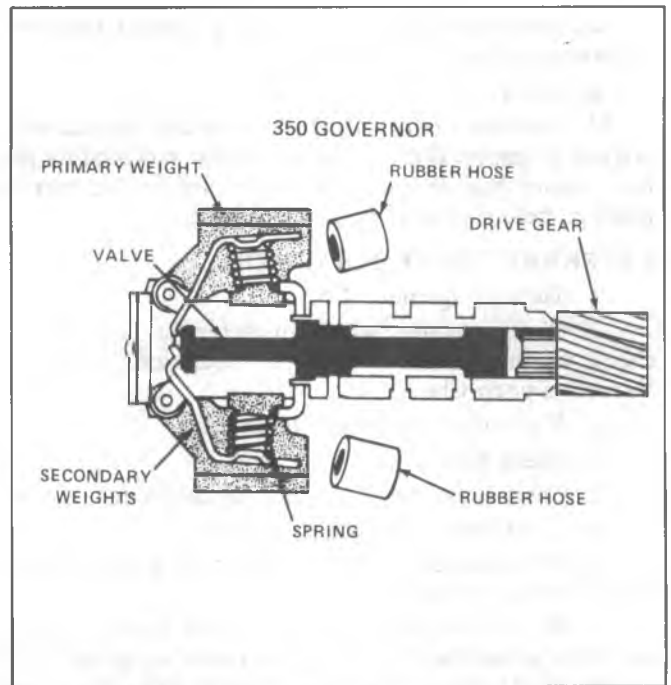

Fig. 7A-3a—Inserting Hose Under Governor Weight
2. Cut two (2) pieces of 5/32 in. (4 mm) outside diameter vacuum hose into 3/8 in. (9 mm) lengths.
3. Insert one (1) piece of hose under each weight of governor (as shown in Fig. 7A-3a).
9. Start engine in PARK(P) and run at idle.